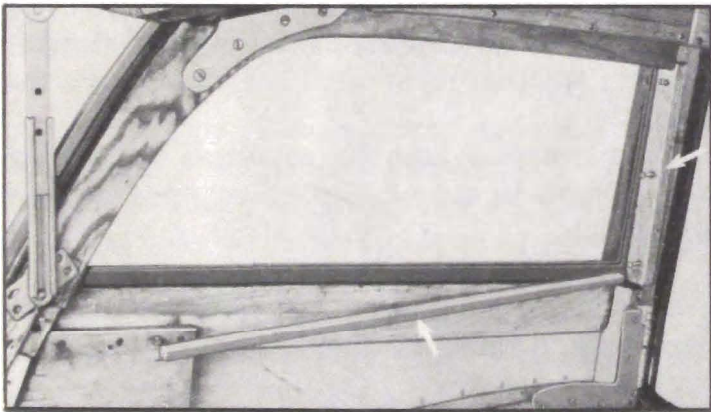

Figure 13-81—Removal of Rear Quarter Window Filler Strips—1948 Models
2. On *1948 Models*, remove filler strips at the bottom and front of glass. See figure 13-81.